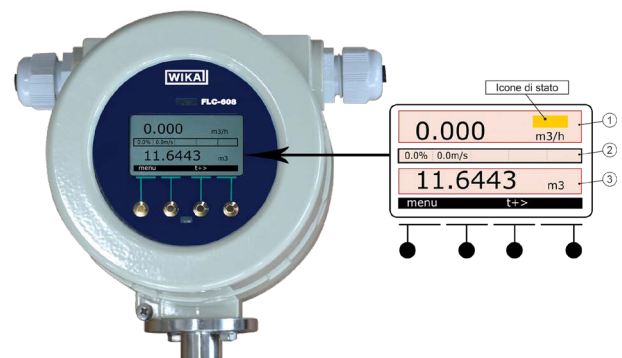

Fig. 44: Display description
With reference to Figure 44, the converter display is divided into 3 main areas:
- The top area (see 1, Fig. 44) contains the status information symbols, with indicators of battery life (FLC-608B and FLC-608R), power supply (FLC-608A) or power supply and battery recharge (FLC-608R), as well as the alarm symbols and instantaneous reading of the flow rate.
- The central area (see 2, Fig. 44) contains a linear graph of the flow rate expressed as a percentage of the full scale.
- The bottom area (see 3, Fig. 44) can be selected by the client and possible options are: